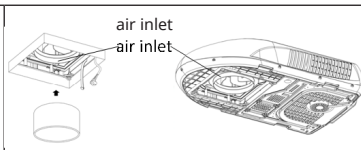

Figure 9
- Take out the outdoor unit and align it to the roof hole around the foam seals. Pull power cord and controller cable into the Caravan. (Fig. 9)